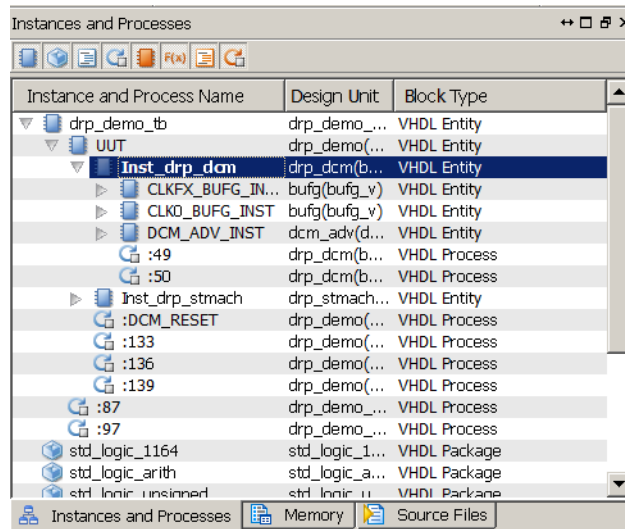

Figure 3-16: Instances and Processes Panel
1. Select the Instances and Processes panel, and in the panel, expand the hierarchy under `drp_demo_tb` as shown in Figure 3-16.